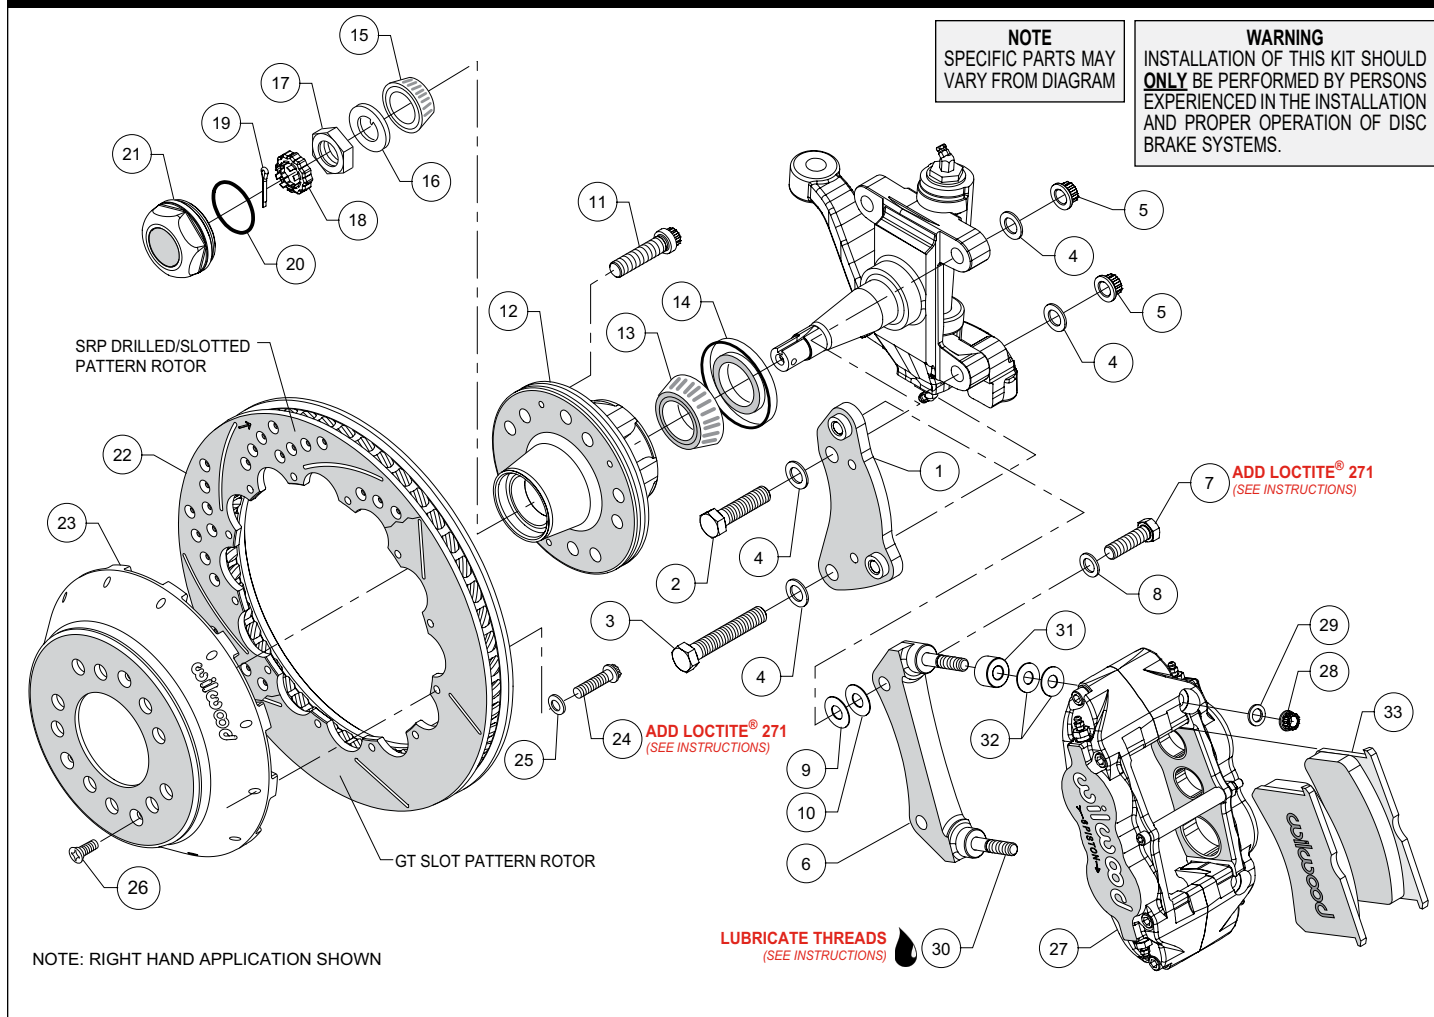

Figure 1. Typical Installation Configuration
NOTE: Numbers in parenthesis refer to the parts list and Figure 1 on the preceding pages.
- Orient the spindle bracket (1) as shown in Figure 1 and Photo 1, and install using bolts (2 and 3), washers (4) and nuts (5). Temporarily tighten the mounting bolts. Ensure that the flanged heads of the clinch nuts in the bracket are facing outboard, Photo 1. **NOTE:** The bracket must fit squarely against the mount bosses on the upright. Inspect for interference from casting irregularities, machining ridges, burrs, etc. Torque lock nuts (5) to 65 ft-lb.
- The caliper mount radial bracket (6) should initially be installed with clean, dry threads on the mounting bolts. Orient the bracket as shown in Figure 1, and Photo 2. Install onto the spindle bracket using bolts (7), and washers (8). Initially place one .030 thick shims (9) on each bolt between the radial and spindle brackets, Figure 1. Temporarily tighten the mounting bolts. Later, after the caliper alignment has been checked, the mount bolts will be secured using red Loctite® 271.
- Install wheel studs (11) into the hub (12), Photo 3. Torque to 77 ft-lb. **NOTE:** There are two five lug patterns in the hub (5 x 4.50 and 5 x 4.75). Ensure the correct hub stud pattern is being used to fit the wheel application.
- Pack the large inner bearing cone (13) with high temperature disc brake bearing grease (available from your local auto parts store) and install into the backside of the hub (12), Photo 4.
- Install the grease seal (14) by pressing into the backside of the hub (12), flush with the end of the hub, Photo 5.
- Pack the small outer bearing cone (15) with high temperature disc brake bearing grease and install into the front side of the hub (12), Photo 6. Slide the hub assembly onto the spindle. Secure using spindle washer (16) and spindle nut (17). Adjust bearings per OEM specifications. Install spindle nut retainer (18) and cotter pin (19), Photo 7.
- Screw dust cap (21) into hub (12), Photo 8. Friction created by the o-ring (20) on the dust cap keeps it from unscrewing. **NOTE:** The O.D. of the existing OEM spindle washer may be larger than the I.D. of the dust cap not allowing it to seat against the hub face. Therefore, use the spindle washer (16) supplied with the kit instead of the OEM washer.
- Orient the rotor (22) and the hat (23) as shown in Figure 1 and Photo 9. Attach rotor to hat using bolts (24) and washers (25). Apply red *Loctite*® 271 to the bolt threads and torque to 155 in-lb using a criss-cross pattern. For an added measure of security, the bolts may be safety wired using standard 0.032 inch diameter stainless steel safety wire as shown in Figure 3. Refer to Wilwood's data sheet DS-386 (available at www.wilwood.com/Pdf/DataSheets/ds386.pdf) for complete safety wire installation instructions.
- Slide the hat/rotor assembly (23/22) onto the hub (12) taking care to align the small countersunk holes in the hat with the small threaded holes in the hub, Photo 10. **NOTE:** The hat must fit flush against the hub face or excessive rotor run out may result. Install three flat head screws (26) through the small holes in the hat, and torque to 85 in-lb.
- NOTE:** This kit contains distinct right and left hand calipers that must be mounted in a specific direction, as described below. Lubricate the caliper mounting studs (30) with lightweight oil. Initially place one spacer (31) and two .035" thick shims (32) on each stud between the caliper and the bracket, as shown in Figure 1 and Photo 11. Mount the caliper (27) onto the bracket (6) using lock nuts (28) and washers (29), Figure 1. Ensure that the caliper is mounted so the largest pistons are at the rotor exit end of the caliper, in relation to the direction of rotor rotation. Temporarily tighten the lock nuts and view the rotor through the top opening of the caliper. The rotor should be centered in the caliper, Photo 12. If not, adjust by adding or subtracting shims (9 and/or 10) between the spindle bracket (1) and the caliper mount bracket (6). Always use the same amount of shims on each of